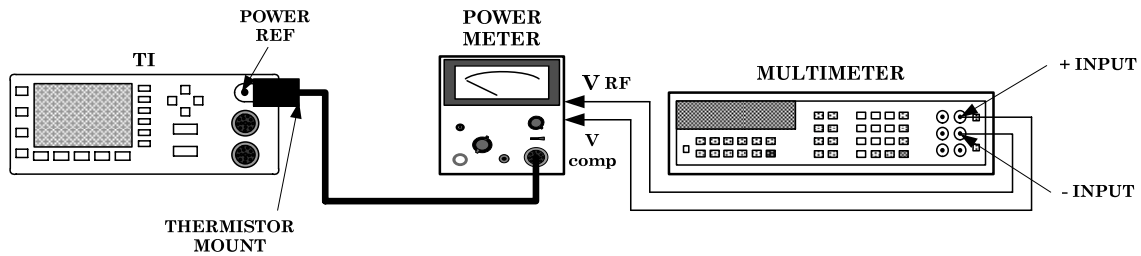

Figure 1. Power reference level - equipment setup.
- (1) Set power meter power **OFF ON** pushbutton to **OFF** position.
- (2) Disconnect thermistor mount from power meter interconnect cable.
- (3) Connect multimeter (resistance mode) between **VRF** terminal center conductor on power meter (rear panel) and pin 1 of thermistor mount end of power meter interconnect cable.
- (4) Record this value as power meter internal bridge resistance as R. (Round multimeter indication to two decimal places. Value will be approximately 200  $\Omega$ ).
- (5) Connect thermistor mount to power meter interconnect cable.
- (6) Connect equipment as shown in figure 1.
(20) Click the WRITE button.
(21) Allow time for TI output to stabilize then record multimeter indication as V1 (rounded to two decimal places).
(22) Disconnect multimeter negative lead from power meter **VRF** (fig. 1) and connect multimeter negative lead to power meter chassis ground. Record multimeter indication as VCOMP (rounded to two decimal places).
(23) Calculate the POWER REF output level PRF from the below listed formula:
(1) Set power meter power **OFF ON** pushbutton to **OFF** position.
(2) Disconnect thermistor mount from power meter interconnect cable.
(3) Connect multimeter (resistance mode) between VRF terminal center conductor on power meter (rear panel) and pin 1 of thermistor mount end of power meter interconnect cable.
(4) Record this value as power meter internal bridge resistance as R. (Round multimeter indication to two decimal places. Value will be approximately 200  $\Omega$ ).
(5) Connect thermistor mount to power meter interconnect cable.
(6) Connect equipment as shown in figure 1.
(7) Set power meter **OFF ON** pushbutton to **ON** position. Allow time to stabilize.
(8) Set power meter **RANGE** switch to **COARSE ZERO** and adjust front panel **COARSE ZERO** control for a zero meter indication.
(9) Fine zero power meter on most sensitive range then set power meter **RANGE** switch to **1 mW**.
(10) Ensure multimeter input terminals are isolated from chassis ground for (11) below.
(11) Configure multimeter to measure dcV.
(12) If multimeter indication is 400  $\mu$ Vdc or less, record multimeter indication and proceed to (14) below; if not, proceed to (13) below.
(13) Hold power meter **FINE ZERO CONTROL** and adjust **COARSE ZERO** control for a multimeter indication 200  $\mu$ Vdc or less. Record multimeter indication.
(14) Record value in (12) or (13) as  $V_0$ . (Round to two decimal places).
(15) Set power meter to highest range.
(16) Disconnect multimeter negative lead from power meter  $V_{RF}$  (fig. 1) and connect multimeter negative lead to power meter chassis ground.
(17) On the display of the instrument controller, in the **COMMUNICATOR** dialog box, enter the following command on the **SEND** line: